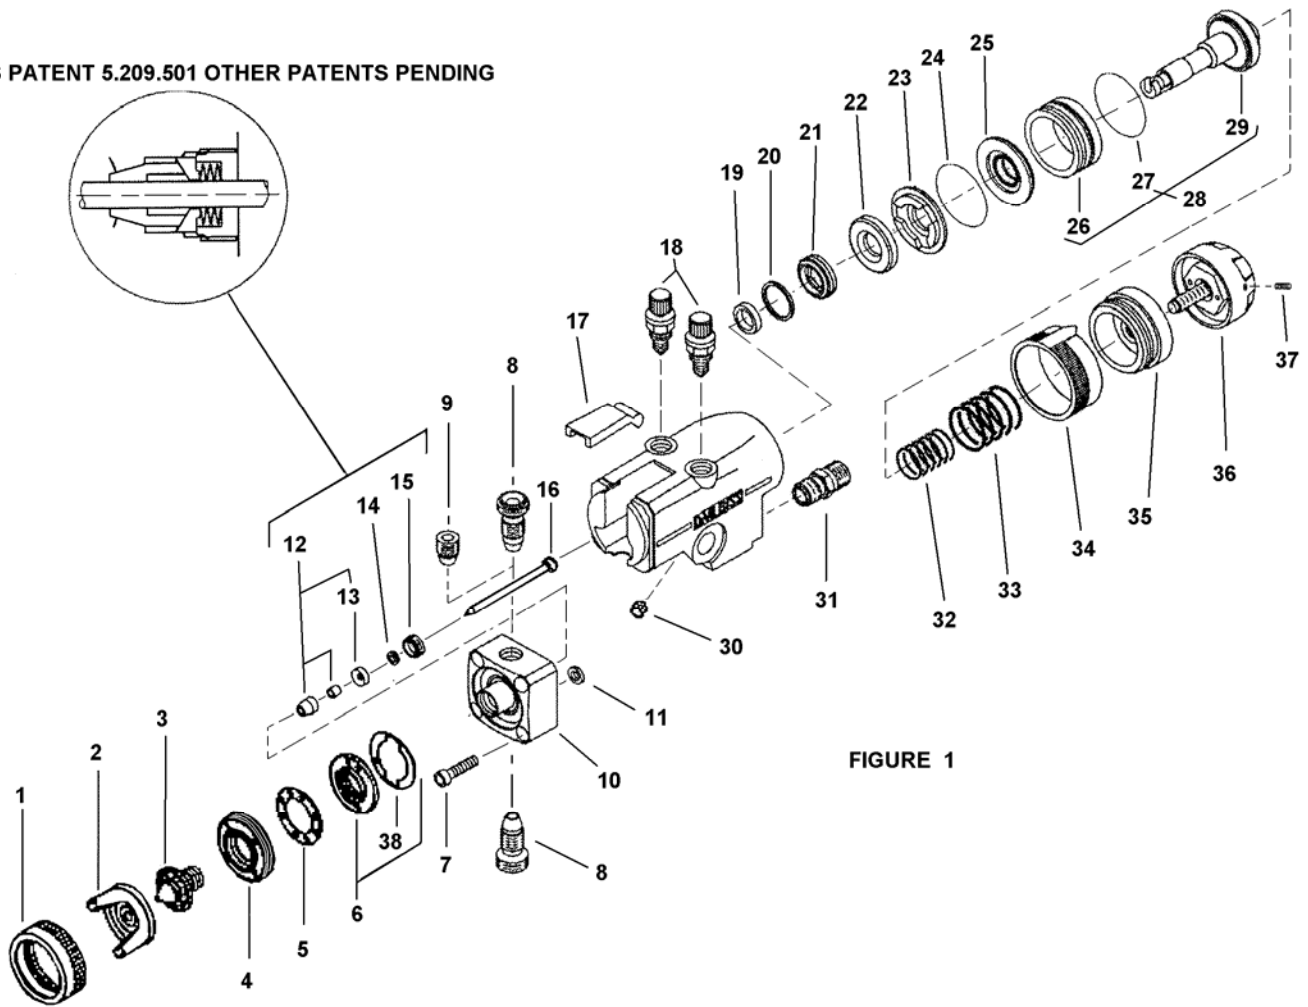

FIGURE 1
See figures 1 and 2 : Mount gun using the 12.7mm (1/2") diameter hole 'X' and secure with screw. An additional 10mm diameter x 12.5mm deep dowel hole 'Y' has been provided to enable users to center the spray gun with mounting fixtures of their own design.
NOTE: Order numbers shown in parts list for figure 1 with suffix “-K2” etc. at the end of the number indicates a kit of parts. Example: Ref 5. AGG-88-K2 is a kit of two seals.
TO REMOVE SPRAY HEAD ASSEMBLY See Figure 1.
- 4.2. Remove retaining screw (15) using a hexagon key, remove disc springs (14), packing piece (13) and needle packing set (12) over needle (16). Refer to enlarged view on Figure 1.
TO DISMANTLE GUN BODY, See Figure 1.